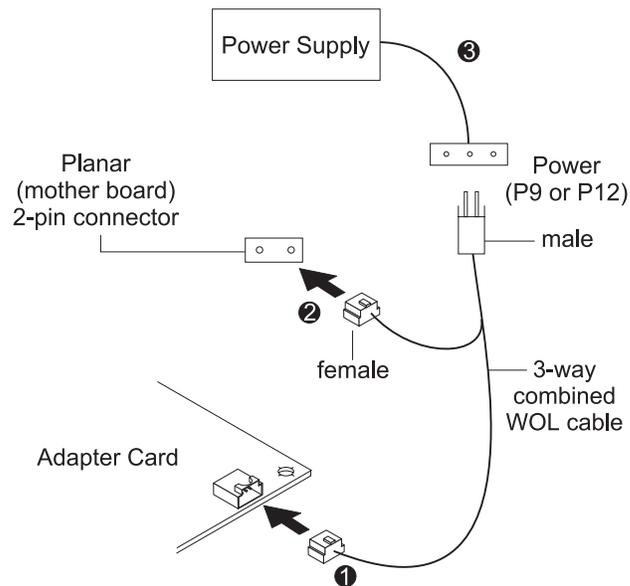

Figure 4. Connecting the 3-Way Wake On LAN cable
2. Connect the single 3-pin female end of the 08L2558 cable to the Wake on LAN 3-pin connector on the adapter, as shown in Figure 4.
5. Locate the 2-pin Wake on LAN signal connector on the computer planar as shown in Figure 4 on page 5. On the split male-female end of the cable, connect the female connector to the 2-pin connector on the planar.